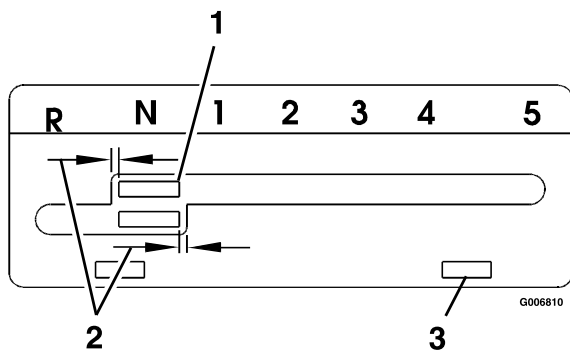

Figure 7
3. Shift the lever to the neutral position. The lever should not contact the left edge of the upper slot. Push the lever down. The lever should not contact the right edge of the bottom slot (Figure 7). The shifter plate can be adjusted side to side to adjust the position of the lever relative to the slot in plate. Loosen the two bolts securing the shifter plate to the shifter lever legs. Adjust shifter plate and retighten bolts.